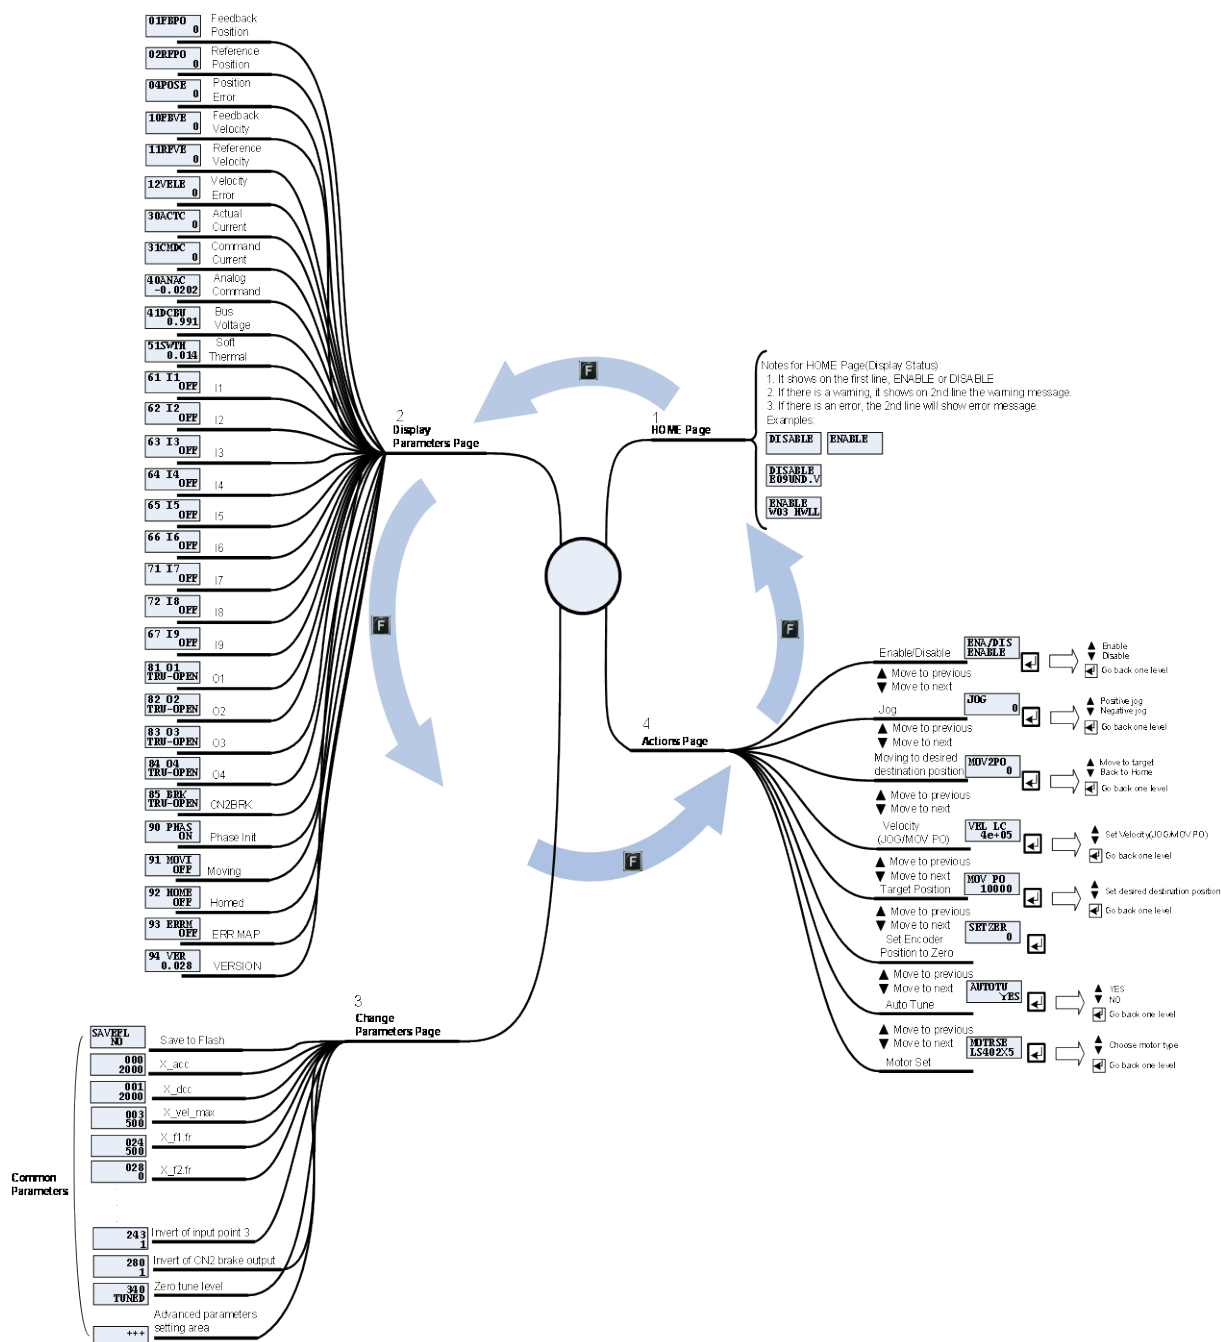

Figure 7.1.2.1 Overall LCD operation structure
There are four modes on the display panel: home page, display parameters page, change parameters page, and actions page. Press the F key to switch to other mode. The overall structure of LCD is shown in figure 7.1.2.1.
- (1) Press the Enter key to set motor model ("MOTRSE"), and then press the Up key or Down key to select the motor model name connected to the drive. This example is "LS402XX5". If the 9-th bit of motor model name is 4 or 6, it uses the serial encoder and the motor model name is unnecessary to be selected. Press the Enter key to confirm the motor model name.
- (2) The LCD screen changes to the gain setting page of "ZeroTune" ("ZT"). Servo loop gains can be easily set without complex procedures via "ZeroTune". Only by selecting the load level of motor, the well stable velocity response can be achieved. Even a beginner who has no knowledge about the servo control can easily drive a motor. Press the Enter key to enter the "ZT" setting, and then press the Up key or Down key to select the load level ("LV"). Figure 7.1.2.1 shows the reference weight corresponded to the load level. After selecting the appropriate load level, press the Enter key to confirm it.
- (3) The LCD screen moves to the setting page of operation mode ("MODE"). Press the Enter key to enter the "MODE" setting. Press the Up key or Down key to select "STNDALON", and then press the Enter key to confirm the change of operation mode.
- (4) The LCD screen moves to the "SAVE TO FLASH" page ("SAVEFL"). Press the Enter key to enter the setting page of saving parameters to Flash, and then press the Up key or Down key to select "NO". Press the Enter key to confirm that parameters do not be saved to Flash. Refer to Section 7.5.1 for more information.
- (5) The LCD screen moves to the home page. At this time, "SVNRDY" is displayed to indicate that the motor is not enabled yet. Now, the setting of motor parameter initialization is completed.